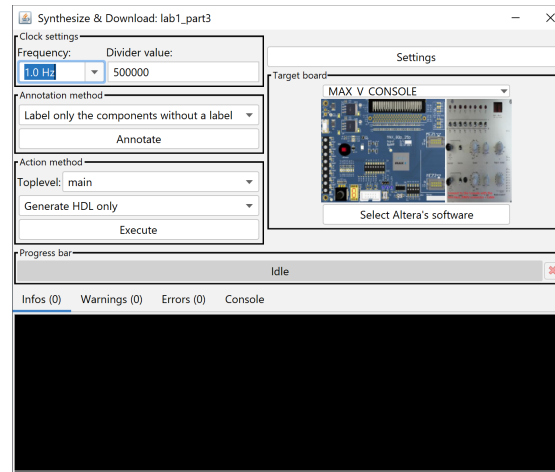

Figure 5: The ‘Synthesize &amp; Download’ window
1. Navigate to **FPGA > Synthesize & Download**. A small window should open (Figure 5).
10. In the **Action method** panel (Figure 5), select the appropriate Toplevel circuit. From the pull-down menu, make sure that **Synthesize & Download** (not **Generate HDL only**) is selected.